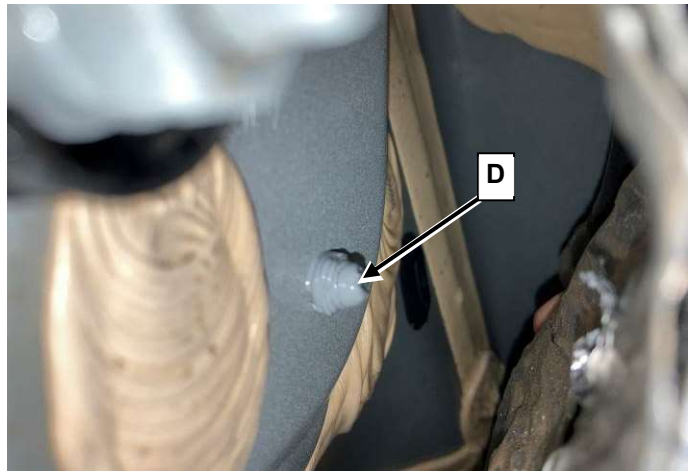

Figure 8 (rivet D, view from below)
- Completed rivet should be visible from below after seam seal is applied (**Figure 8, D**)